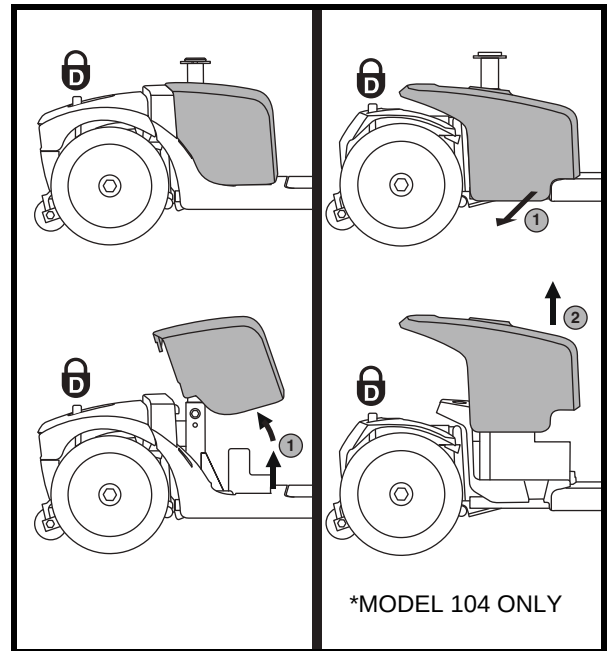

Figure 10. Battery Shroud Removal/Installation
1. Remove the seat and battery shroud. See figure 10.